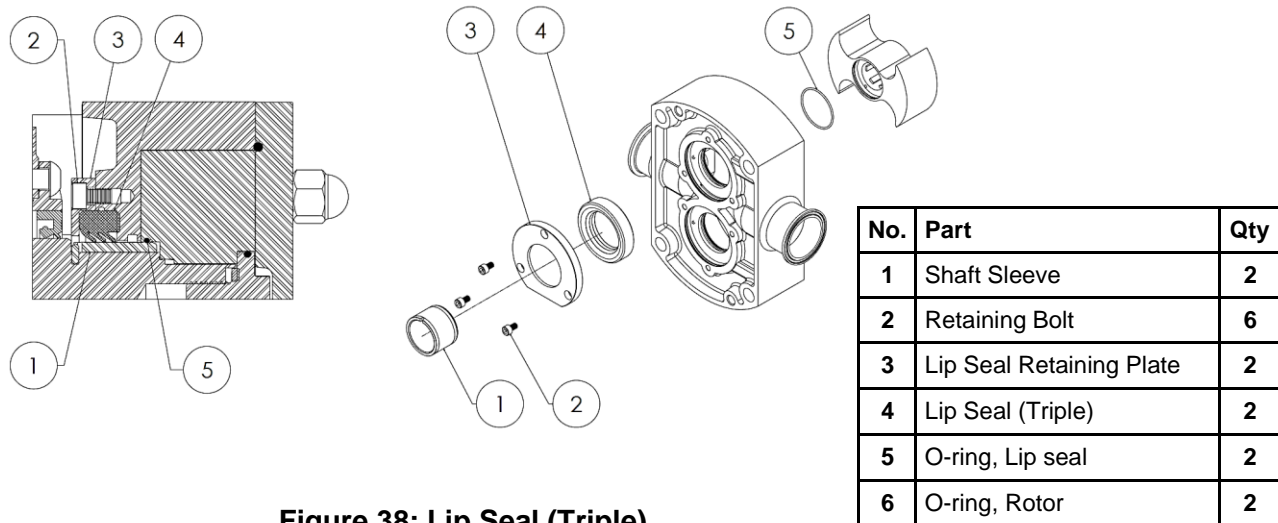

Figure 38: Lip Seal (Triple)
Disassembly: The lip seal option is shown in Figure 38. Remove the retaining bolts using the appropriate driver and slide the lip seal out of the body. Check the lip seal for damage around the lips, if any of the lips are damaged discard the lip seal and replace it. Remove the o-rings from the lip seal and rotor (Figure 38, items 5, 6). If damaged, replace o-rings. Slide the shaft sleeves off the shafts and inspect for damage. Do not re-use sleeves that are damaged (sleeve surface grooved or scratched).